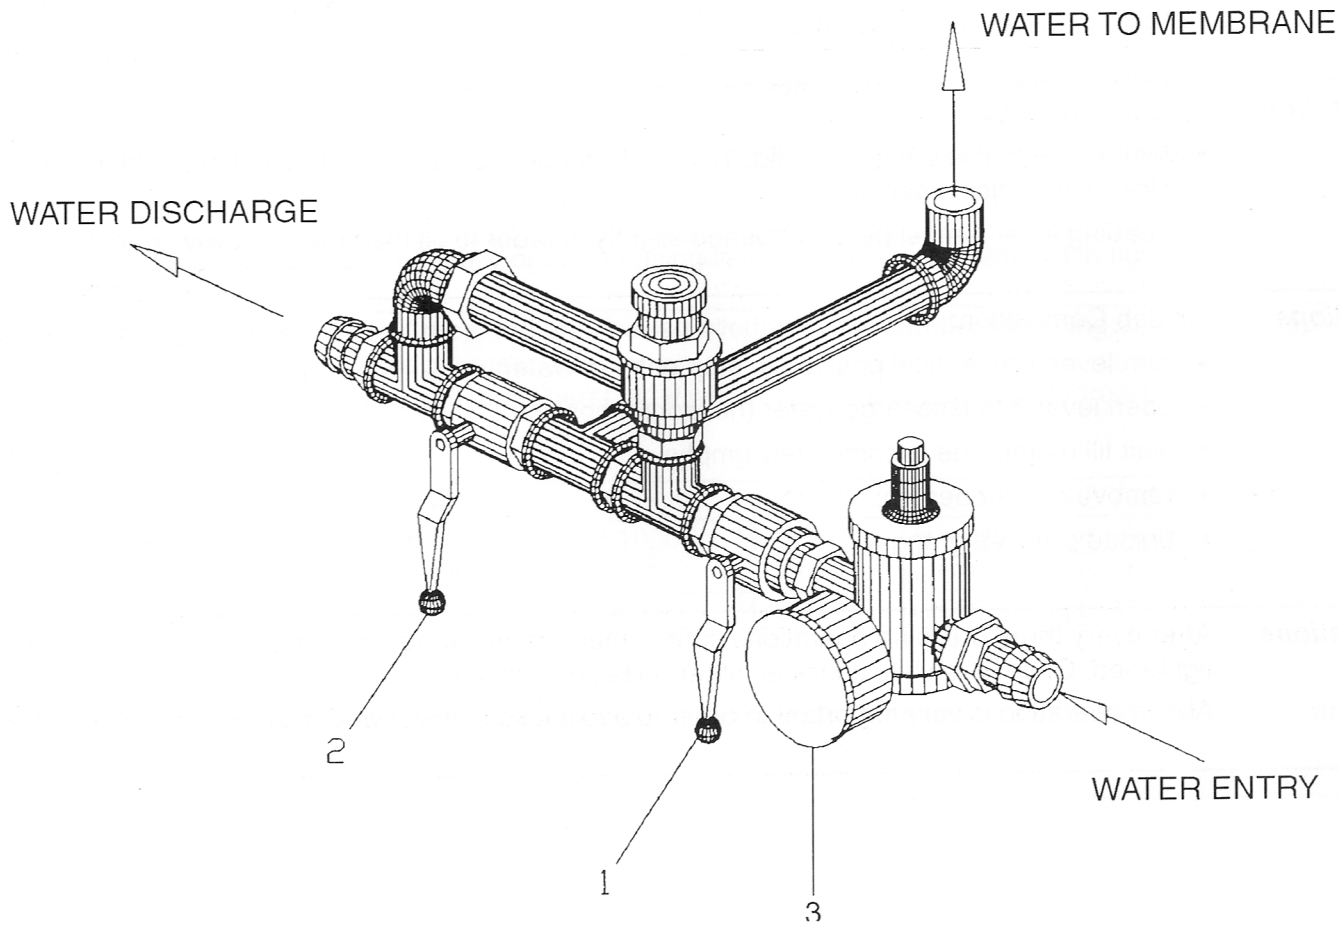

Fig. 1
All start and stop operations are manually operated using levers 1 and 2 as illustrated in figure 1, page 9.
- Make sure that loading lever (fig. 1, lever 1) is open. Lever 1 must be in horizontal position. Discharge lever 2 must be closed in vertical position